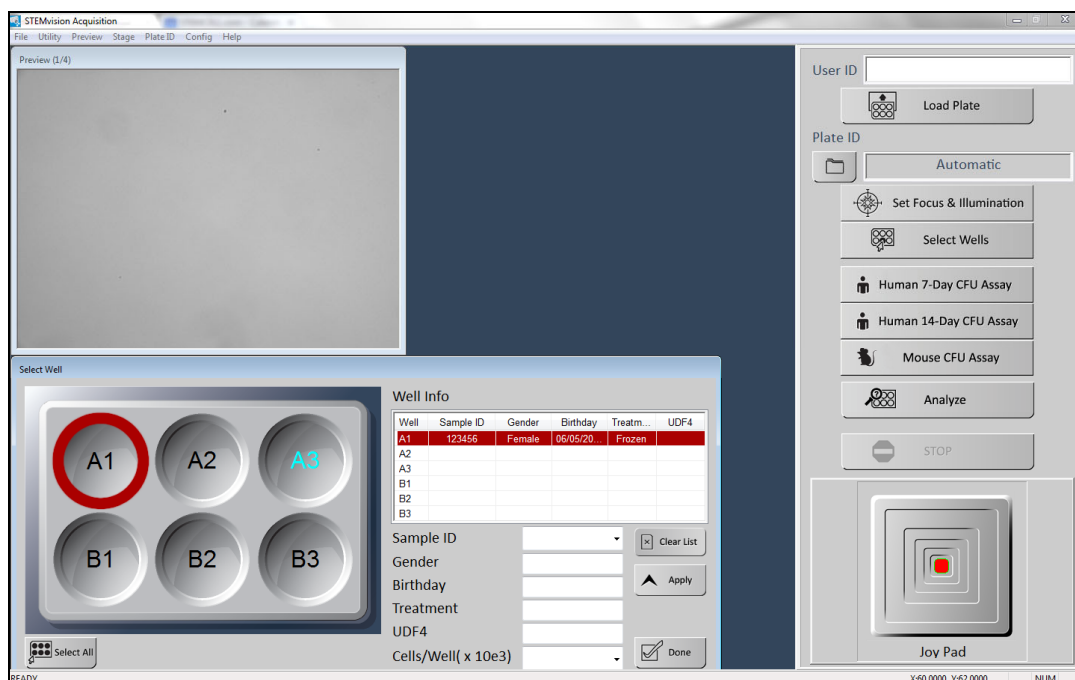

Figure 9. Sample ID Information Dialog Box
1. Click the “Select Wells” button in the Control Panel. A dialog box (Select Wells) will appear on the screen showing a graphic of a 6-well plate and a “Well Info” table where the associated sample information is displayed (Figure 9).